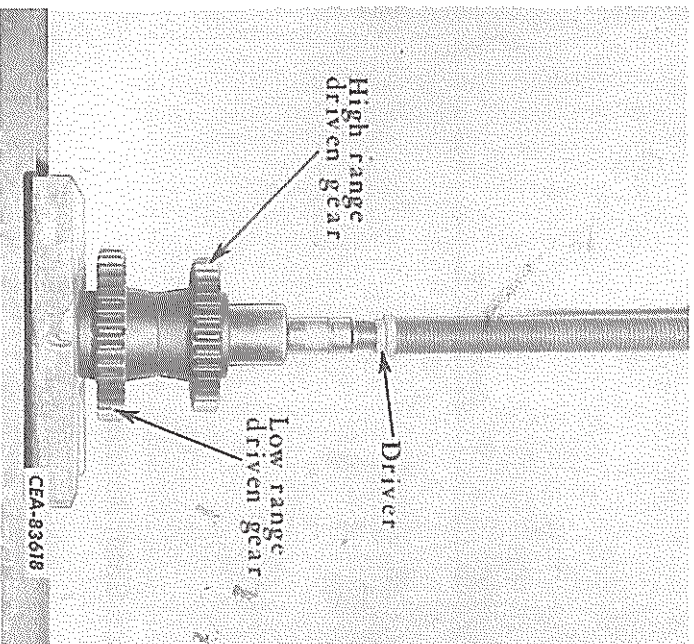

FIG. 40 — Removing the High and Low Range Driven Gears
29. EARLIER MODELS: Slide the front and rear spacers from the shaft. Place the shaft in a press supported by the low range driven gear and press off both gears in one operation. Remove the woodruff keys (Fig. 40).
LATER MODELS: Remove high gear retainer ring (it is not necessary to remove the bearing spacer unless it needs replacement). Place the shaft in a press supported by the low range driven gear and press off both gears in one operation. Remove the woodruff keys (Fig. 40).